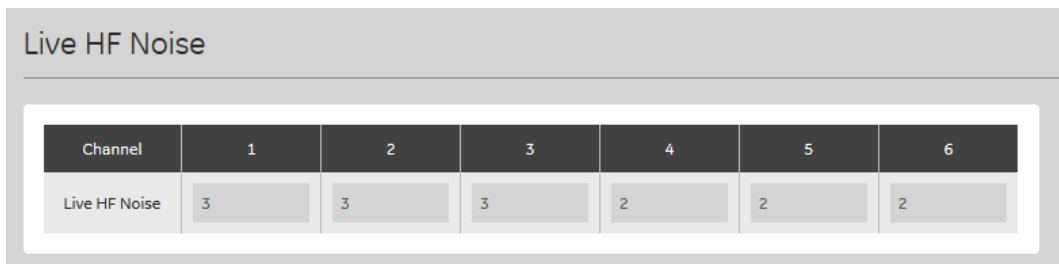

Figure 10-28: Live HF Noise
- Select **BMT > Configuration** and scroll down to the ‘Live HF Noise’ section as shown in Figure 10-28.